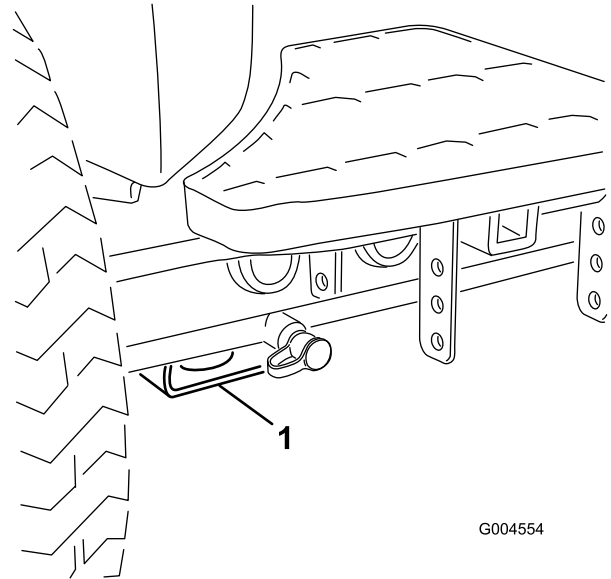

Figure 26
- **Front of the machine**—rectangular pad, under the axle tube, inside each front tire (Figure 26).